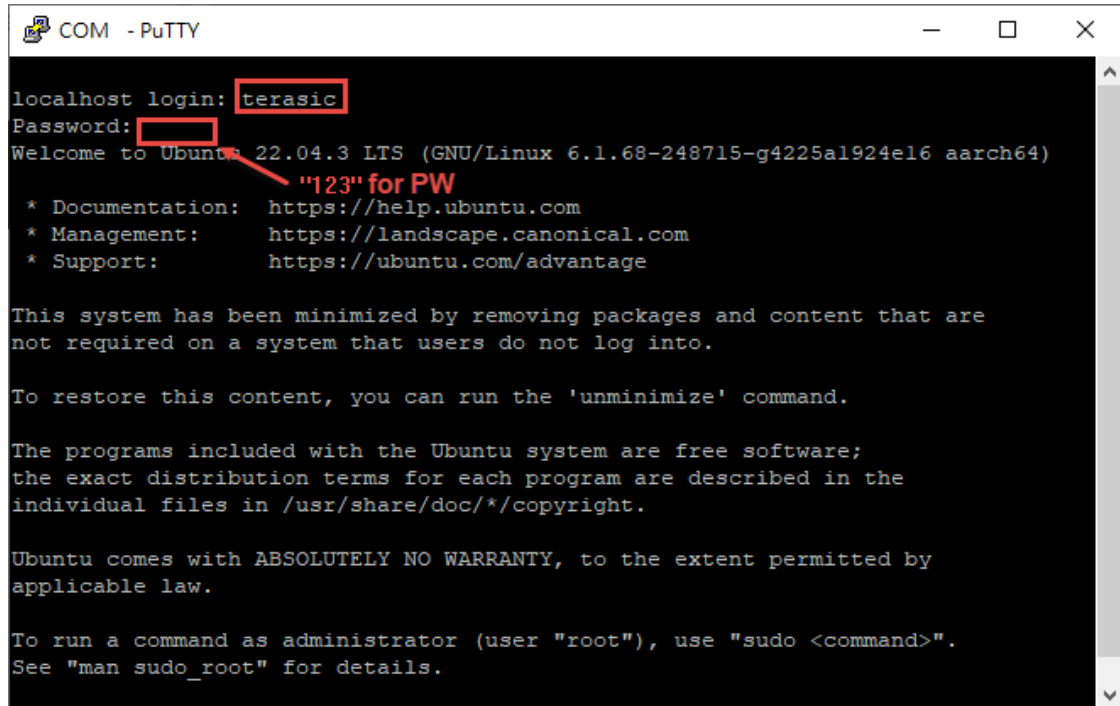

Figure 1-11 Putty Window
4. After Linux has successfully completed the boot process, please type "**terasic**" for account name and "123" for the password to login Ubuntu(See **Figure 1-11**).